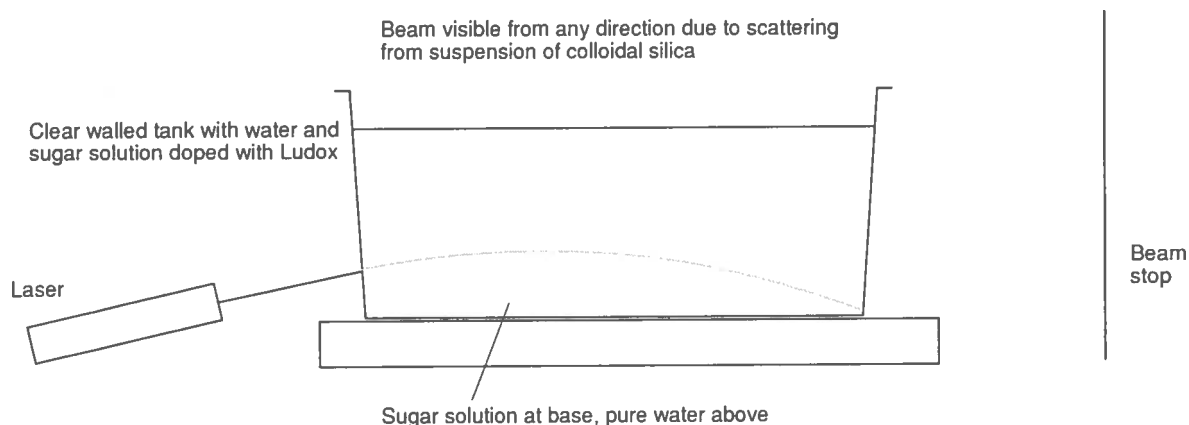

Figure 4. Graded refractive index between sugar layer and water causes beam to bend.
5. When ready to use direct a laser beam into the tank as illustrated (Fig. 4). The effect is best viewed in a darkened room.